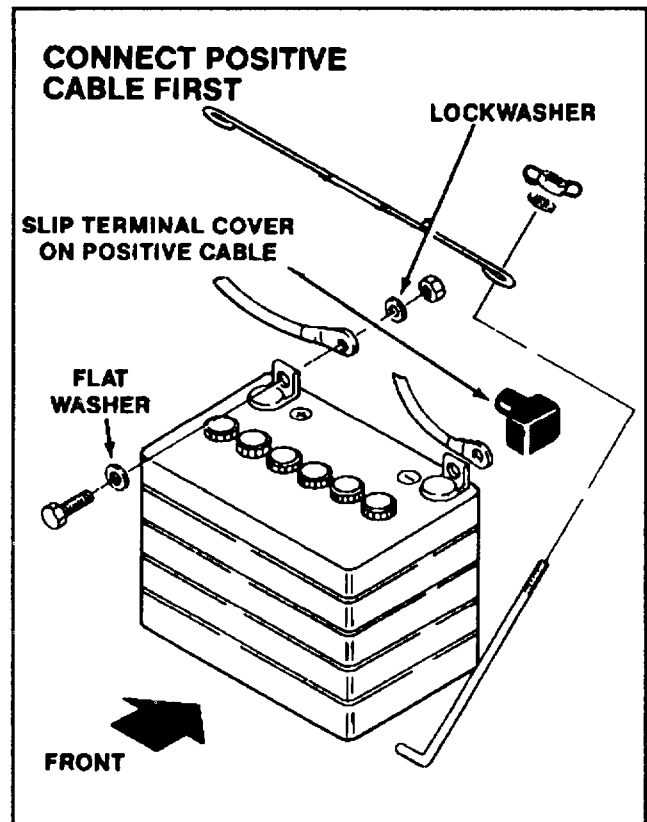

FIG. 4 - Battery Installation
1. Refer to Figure 4 and remove battery from tractor.
5. Install battery in tractor making sure terminal posts are positioned properly (Fig. 4). Install battery hold down assembly. Tighten nuts only enough to keep battery from moving. DO NOT OVERTIGHTEN.
6. Reinstall battery cables as shown in Figure 4. Grease all exposed metal surfaces of battery terminals.